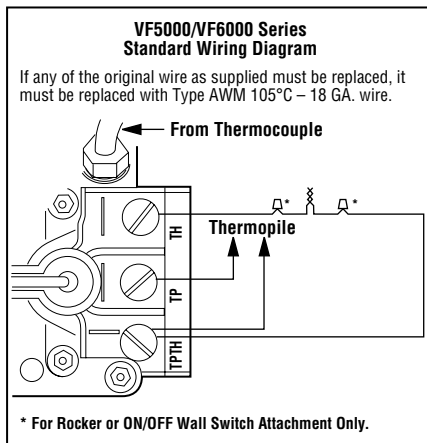
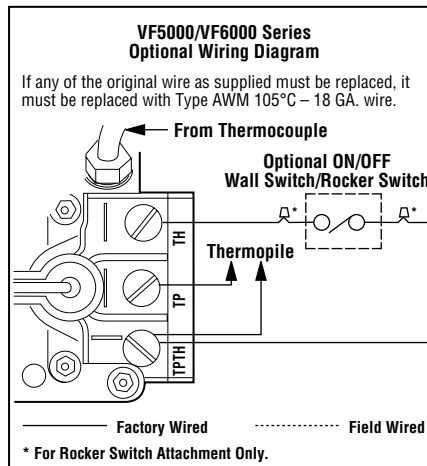

Figure 13
Figure 14
Step 6. Installing the Optional Remote Wall Switch – The standard millivolt system comes from the factory wired as shown in Figure 13. Select a convenient location for the remote wall switch and connect the wiring to the appliance (Figure 14).
An optional wall switch kit can be installed along with all vent-free appliances. The kit consists of a standard UL wall switch with cover plate. This kit provides for remote (wall) operation of the appliance. Replace the wall switch and cover plate of this kit with the components of the FWSK and you can have true remote control of your vent-free appliance, turning it on and off from your favorite easy chair. The wall switch kit should be installed along with the appliance. Refer to *Figure 14* and Step 6 for detailed installation instructions.